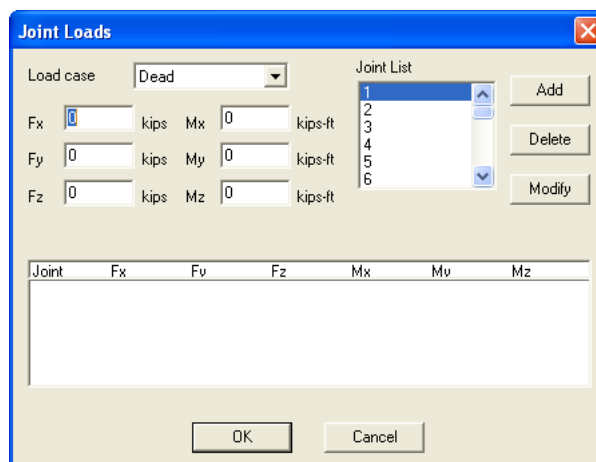

Figure 3-32 Joint Loads dialog box
- From the **Analyze** menu, select **Joint Loads**. The dialog box of Figure 3-32 appears. Some text boxes may not be available depending on the structure type selected.